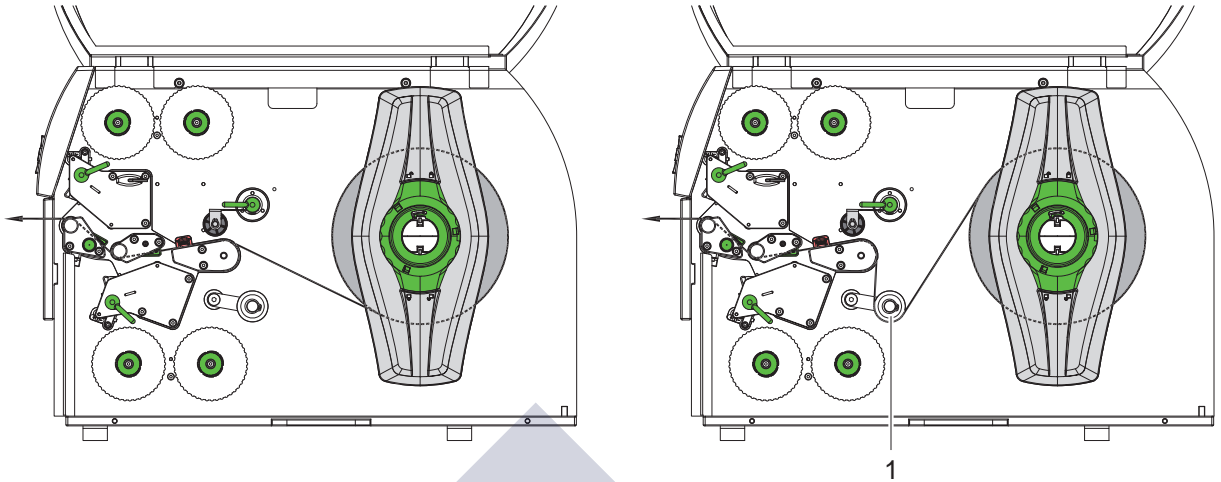
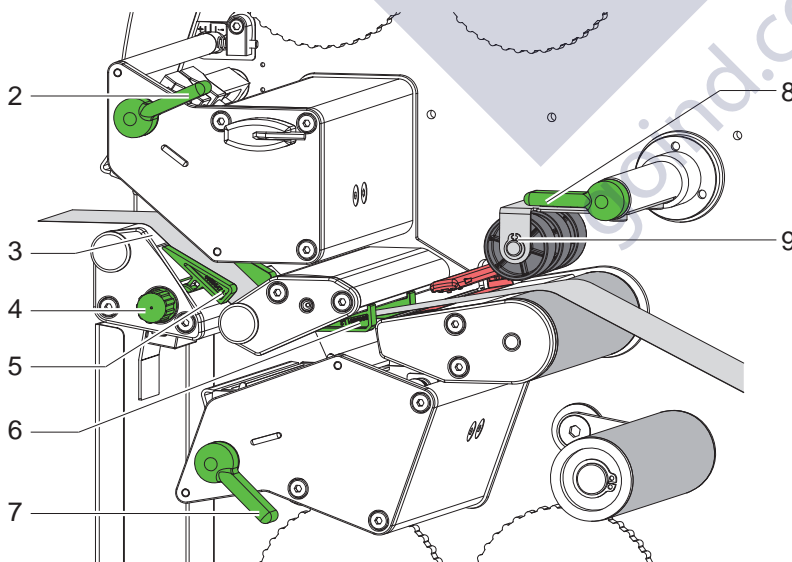

Fig. 8 Material feed path
Fig. 9 Inserting a media strip into the print mechanics
1. Unroll a longer material strip of approx. 50 cm. Guide the media strip to the print mechanics as shown in figure 8. If the media is coming from above (figure 8 right side) guide it around the pivot arm (1).
2. Turn lever (2) counterclockwise and levers (7,8) clockwise to lift both printheads and the hold-down (9).
3. Move guides (5,6) apart with the knob (4) until the media can pass between them.
4. Guide media strip through the print mechanics as shown in figure 9 to the upper print roller (3) and place the strip between the guides (5,6).
5. Move guides against the edges of the material by turning the knob (4).